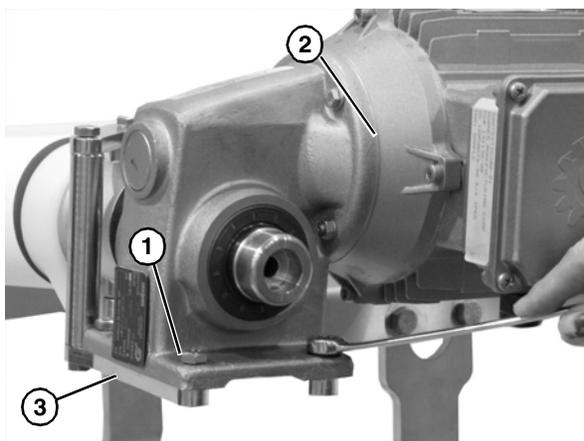

Figure 40
5. Remove the four bolts (Figure 40, item 1) that connect the gearmotor (Figure 40, item 2) to the gearhead mounting bar (Figure 40, item 3)